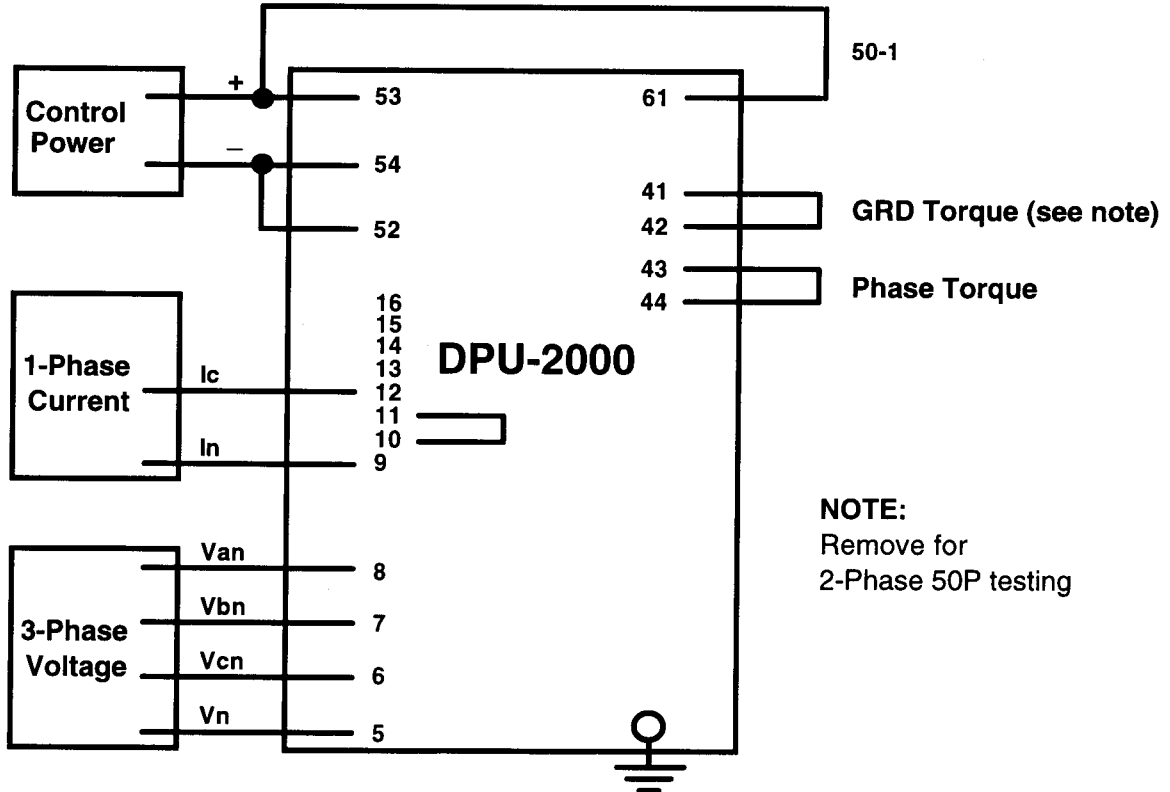

Figure 30. Test Circuit for 51N, 50N-1, and 2-Phase 50P Functions
4. Connect the DPU-2000 as shown in Figure 30. Repeat Step 2 to confirm the continuity and accuracy of phases C and N.
6. Apply 4.5 A to the DPU-2000 as shown in Figure 30. Gradually increase the current until the PICKUP LED just lights. This should be within $\pm 3\%$ of the pickup (5 A). This confirms the ground pickup.
- b. Connect the DPU-2000 as shown in Figure 30.
8. Connect the DPU-2000 as shown in Figure 30, removing the ground contact input jumper from 41 and 42. Apply the fault as for C to N, and confirm that the relay does not trip on 50P-1.